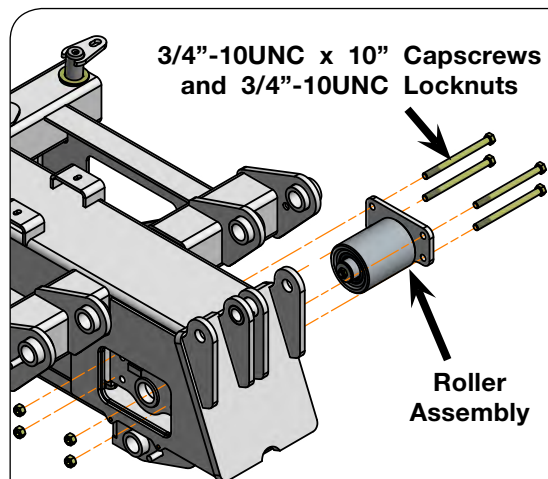

FIG. 4-8
4. Replace roller assembly (602186B) and retain into position with the 3/4"-10UNC x 10" capscrews (9390-450) and 3/4"-10UNC locknuts (9802) previously removed. (FIG. 4-8)